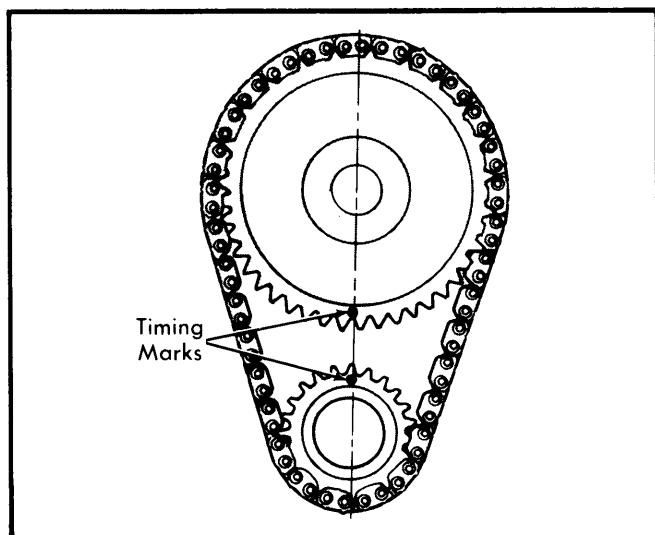

Fig. 8 Timing Chain Sprocket Alignment Marks
2) Crank engine until timing marks are lined up (see Fig. 8) and remove camshaft sprocket cap screw, washer and fuel pump eccentric. Slide timing chain and sprockets forward and remove as an assembly.